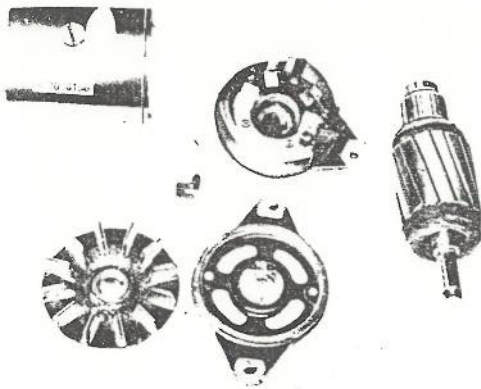

Fig. 10-48
- (7) Remove the stopper ring from the bearing on the front cover and then remove the bearing. (See Fig. 10-48)
- (8) Remove the pole core setting bolt and then take out the field coil.